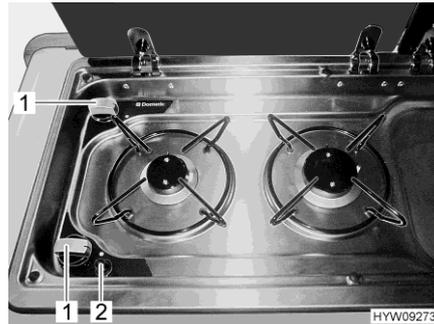

Fig. 85 Gas cooker
- Turn the control knob (Fig. 85,1) on the burner you wish to use to the ignition position (large flame).
- Press the push button (Fig. 85,2). An ignition spark is created at the burner. If necessary, press the push button several times.